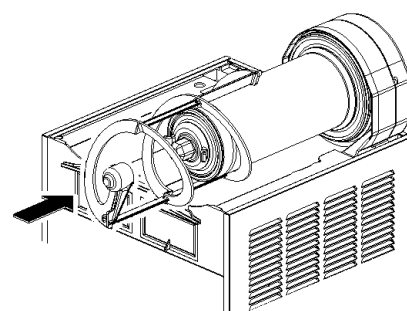

figure 14
- 6 Install the outer spiral. Slide it over the evaporator until its hexagonal front notch engages with the hexagonal exposed end of the magnetic outside rotor (see figure 14).